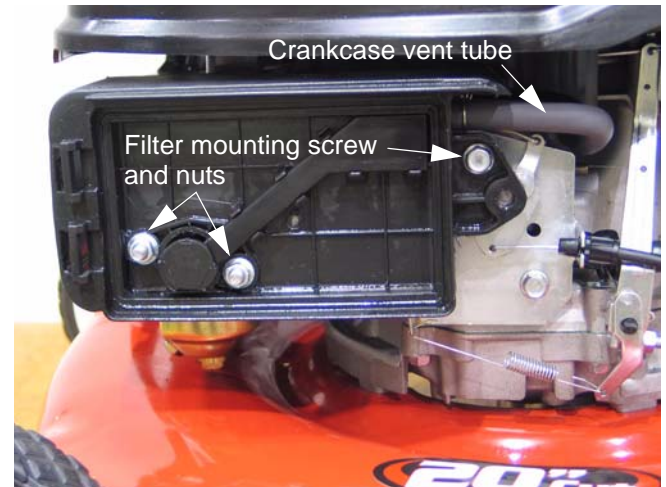

Figure 8.12
- 8.12. The air filter assembly is easily removable using a 10mm wrench. See Figure 8.12.